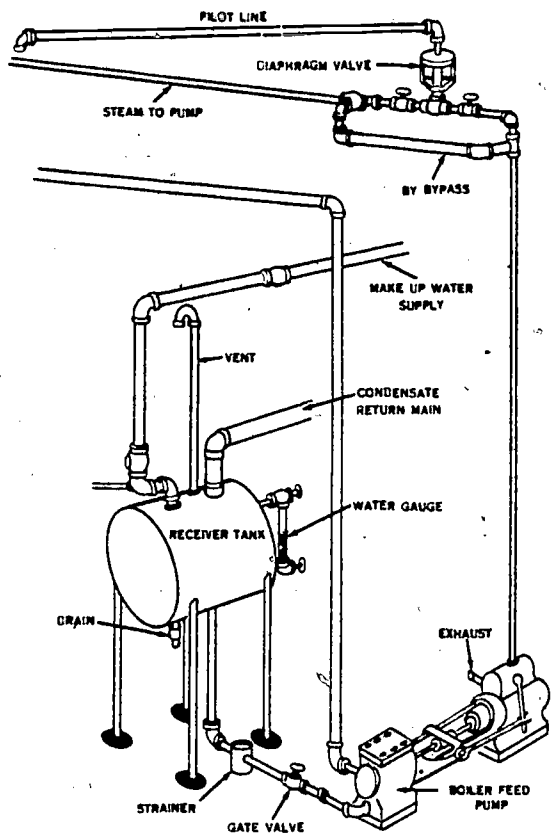

Figure 7. A steam pump controlled by a diaphragm valve.
4. Another method has the flow of steam going to the pump controlled by a diaphragm valve located in the steam supply line, as shown in figure 7. The valve is opened by spring pressure applied on the underside of the diaphragm and closed by water pressure applied on the top of the diaphragm. The water pressure for closing the valve is supplied by a pilot line running from the boiler feed line or pump discharge. When the boiler water-level control calls for water, a valve in the feed line opens and allows the pressure in the pilot line to drop. The spring then opens the diaphragm valve and allows steam to flow to the pump. The pump now starts, and it supplies feed water to the boiler. When the boiler requirements are satisfied, the water-level control closes
5. The water piping between the boiler and the steam pump is similar to that of the water-main supply system. The supply of water to the steam pump is taken from a condensate receiving tank. The water piping between the boiler and the steam pump is shown in figure 7.